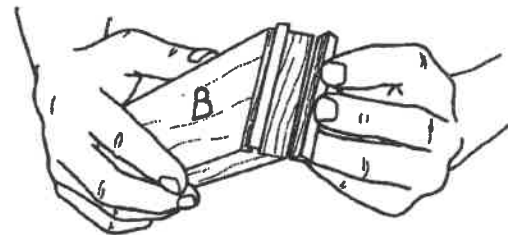

Fig. D-4
8. Remove the remaining wood from workpiece "B" by lowering the slide (in increments no more than the diameter of the bit), then making a cut. Repeat this process until there is about 1/8" of wood remaining at the "toe". Then go down in 1/2 turn increments until only a thin sliver is left. When you reach this point, remove the workpiece and gently snap it off, as in Fig. D-4. This will give you a nice, crisp edge on the tip of the workpiece.